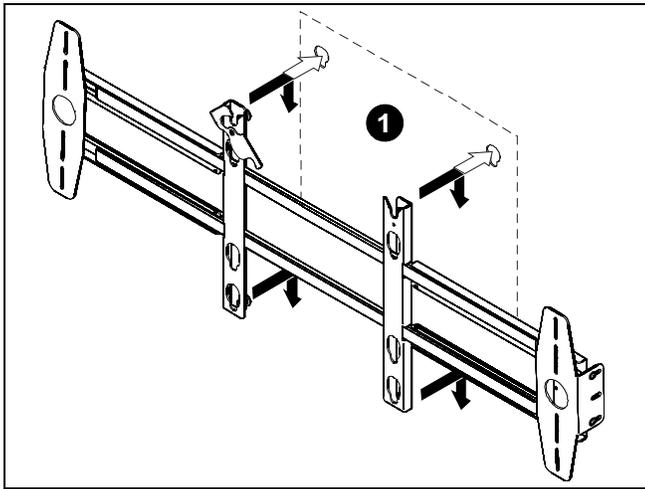

Figure 10
1. Install accessory to mount following the installation instructions provided with the mount. (See Figure 10)